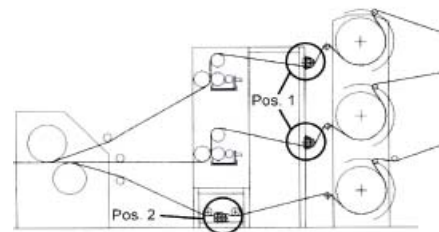

Fig. 1
1. On the preheating and lamination units or at the double backer (Fig.1)